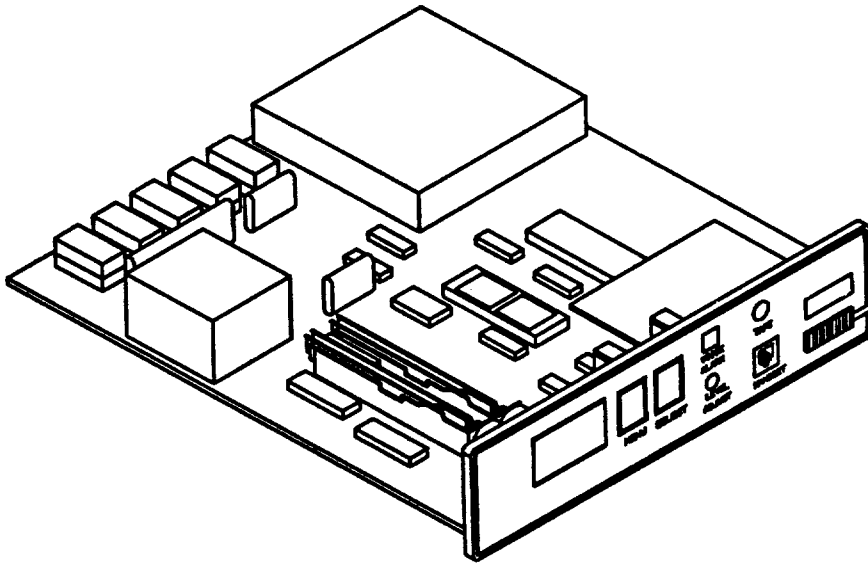

Figure 2. 14A Announcement System ALD2 Circuit Pack
- Code ALD2 (Figure 2) — A record/reproduce unit that uses a Random Access Memory (RAM) and can record a unique announcement of up to 30 seconds in length.